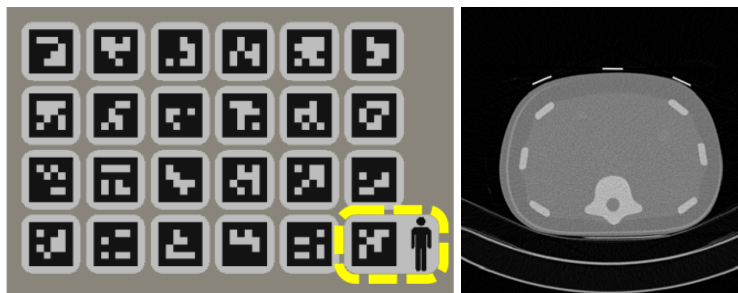

Figure 24: VisiMARKER sheet (Orientation Marker highlighted in yellow) (left); “early markers” appearance in high-quality CT slice (right)
The **CLEAR GUIDE SCENERGY** system can perform real-time image fusion between ultrasound images and 3D imaging volumes. For CT, the patient needs to be prepared with skin-attached **CLEAR GUIDE VisiMARKER** fiducials placed around the intervention site before performing the interventional scan (Figure 24). These VisiMARKERS will then allow registration. The markers visible in the 3D imaging volume are called “early markers”.
2. *Optionally:* Align the Orientation Marker (with patient icon; Figure 24) with the patient as shown in Figure 25, with the head on the icon towards the patient’s head. Markers should only be applied on clean, dry, and shaved skin.